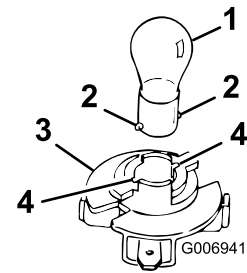

Figure 33
2. Insert the base into the holder (Figure 33).
4. Insert and rotate the bulb counterclockwise until it stops (approx. 1/4 turn), and remove the bulb from the bulb holder (Figure 33).